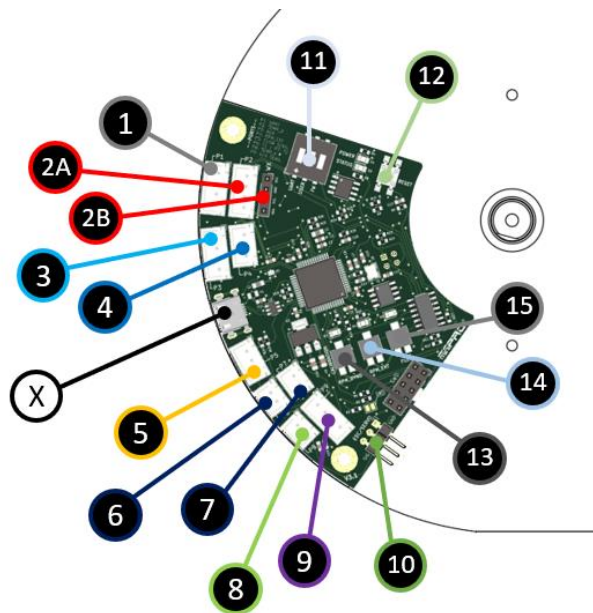

Figure 3: Dyno Controller Board V3.1 Ports Diagram
14. Select the installed sensors from the drop-down (i.e. for voltage and current sensor see *Figure 3*).